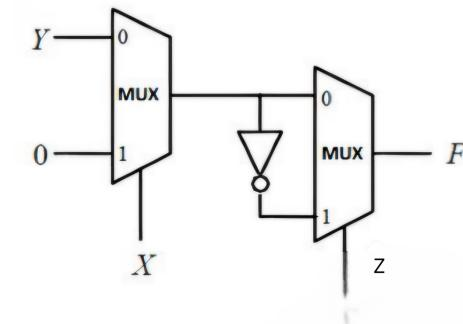

Fig. 4.25
50. Find the logic function implemented by the circuit given below in Fig. 4.25.